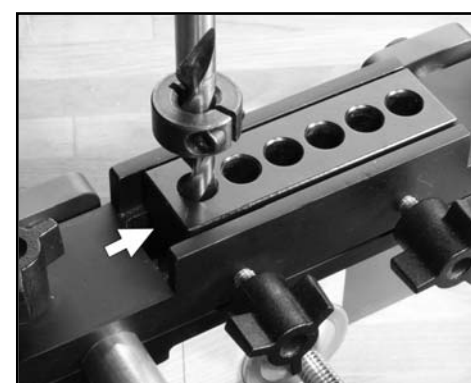

Fig. 8
8. Shift drill block all the way to the right and tighten. (Fig. 8)